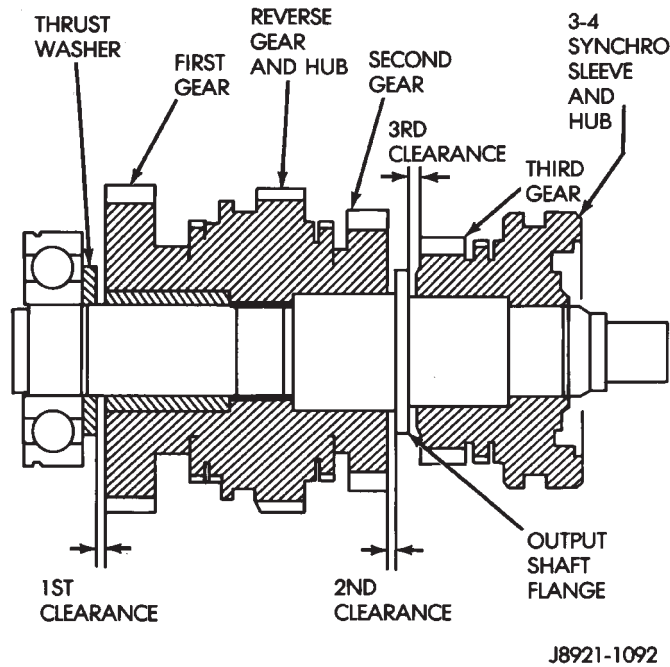

Fig. 123 Check First-Second Gear Thrust Clearance
- (27) Check first and second gear thrust clearance (Fig. 123). First gear clearance should be 0.10 - 0.40 mm (0.003 - 0.0197 in.). Second gear clearance should be 0.10 - 0.30 mm (0.003 - 0.0118 in.). If